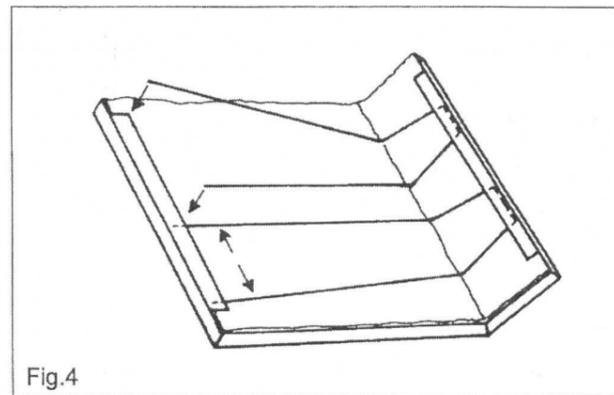

Fig.4
5. The two ends of the wire yoke are then pressed outwards and lifted upwards (fig. 4). The filter felt can then be removed.